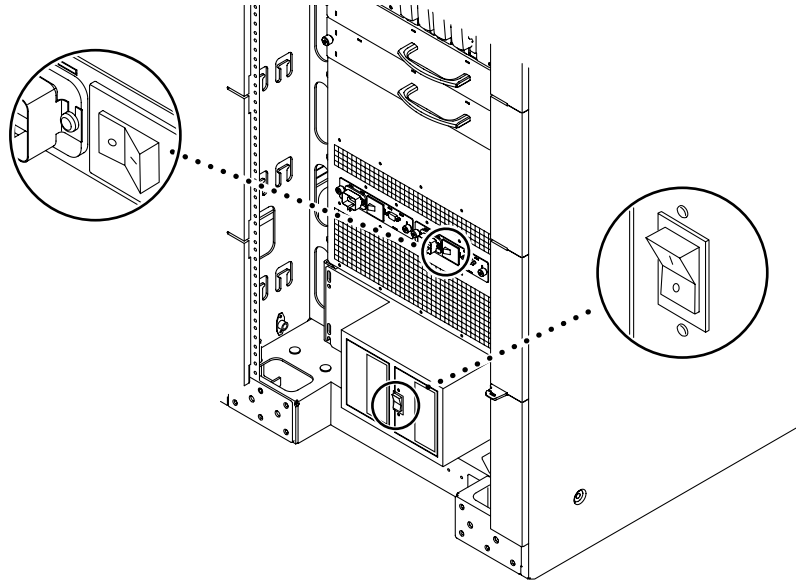

FIGURE 2-11 Sun Fire E6900 System Power Switch Locations
- a. Turn the AC power switches off on the redundant transfer unit (RTU) modules at the front and rear of the system (FIGURE 2-11).
4. **Power on the RTS power switches (FIGURE 2-11).**
5. Power on the AC input box power switches (FIGURE 2-11).